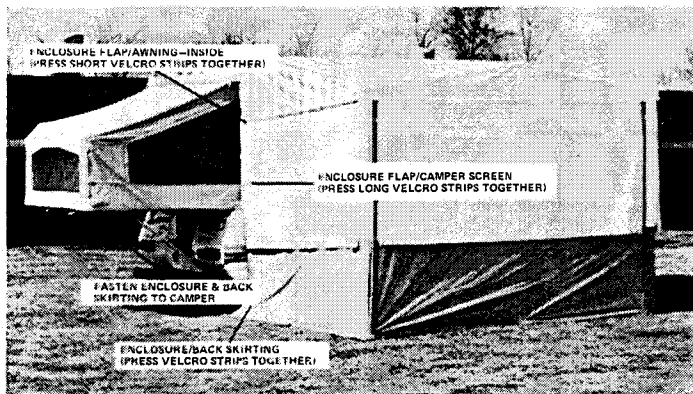

Fig. 34
STEP 3 — Zip the enclosure to the awning starting at point "A" (FIG. 34). Arrange each bug flap as follows: loop flap around the outside of roof support (*support must be inside the enclosure when completed*); press long velcro strips, which are mounted on the flap and camper screen, together; press the short velcro strips, which are mounted on the flap and awning, together.
Your Combo Room and Awning should be arranged as that shown in figure 34.